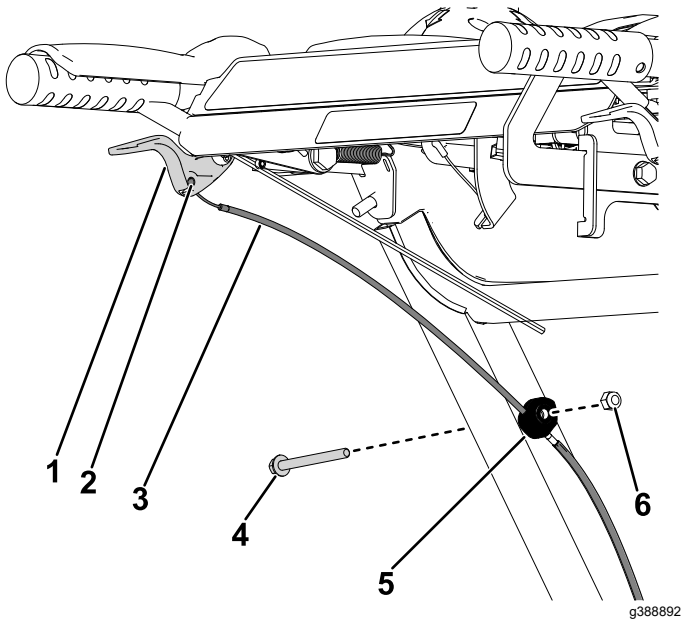

Figure 5
6. From the left side of the machine, disconnect the clutch cable from the clutch lever (Figure 5). Repeat on the right side.
7. From the left side of the machine, remove the hex nut (1/4 inch) and bolt (1/4 x 2–3/4 inch) securing the cable clamp to the lower handle tube (Figure 5). Repeat on the right side.